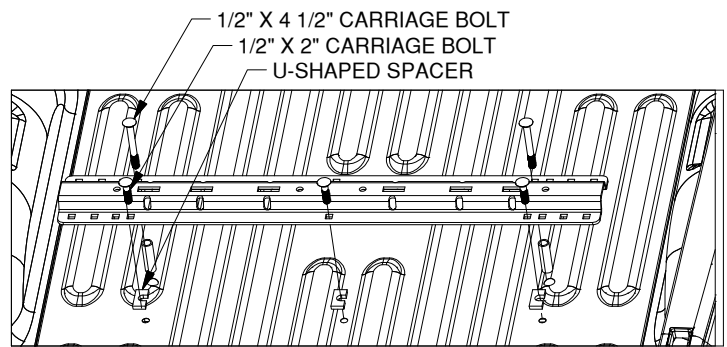

Figure B1: View looking into truck bed from rear of truck.
1. **Place the rear mounting rail.** Locate the two tube spacers, place a tube spacer into each of the 7/8" drilled holes. Re-position the rear mounting rail over the drilled 9/16" and 7/8" holes in the bed. Install two 1/2" X 4 1/2" carriage bolts into the two forward drilled positions (7/8" holes over the cross member) and install three 1/2" X 2" carriage bolts through the three rear drilled positions, as shown in Figure B1. Place a U-shaped washer between the bed and the mounting rail at the three rear drilled positions.